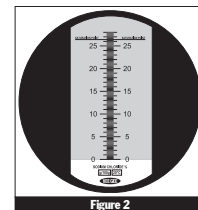
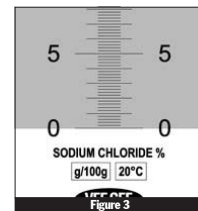

Figure 2
Figure 3
- 5 When the refractometer scale is viewed through the eyepiece, the upper field of view will be seen as blue and the lower field will be seen as white (Figure 2). Confirm that the boundary line crosses the scale at "0" (Figure 3).